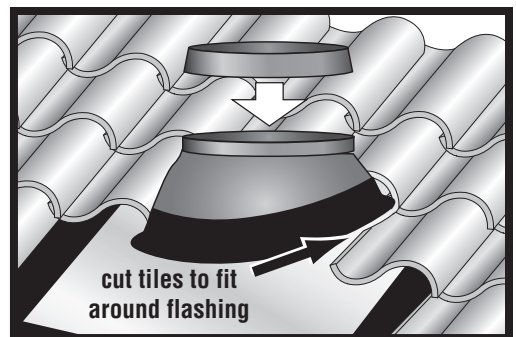
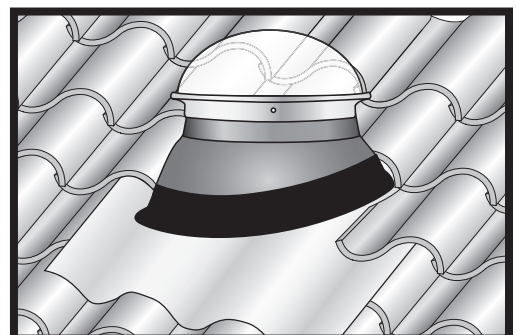

Figure 4
Figure 5
5. For S-tile installations, an optional 3" turret extension can be used. Slip turret over the flashing lip and secure with the (4) screws provided (see Figure 4).
6. At the high side of the roof towards the ridge, replace the tiles over the skirt. Cut tiles to fit around flashing (see Figure 4). Some furring strips may need to be replaced on top of flashing footprint to support tiles. Replace the tiles on the low side of the roof, but keep skirt above the tiles and reshape the skirt aluminum to form around the tiles (see Figure 5).